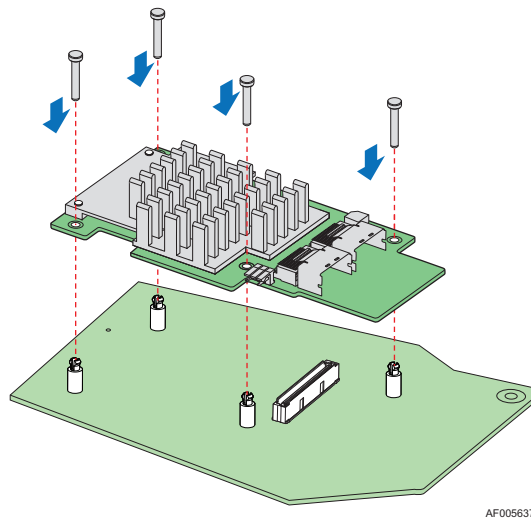

Figure 5. Installing the Intel® Integrated RAID Module RMS25CB080N
4. Attach the RAID to the matching server board connector, and press the module card firmly to engage the barrel standoffs installed in step 3 (see Figure 3). Press down gently but firmly to ensure that the card is properly seated in the connectors, and then insert the four pin standoffs into the barrel standoffs respectively. The Intel® RAID Module RMS25CB080N is shown for illustrative purpose (see Figure 5).